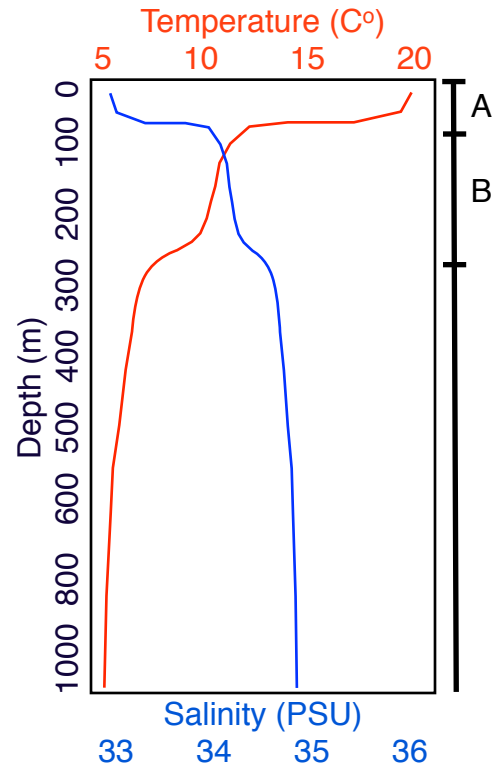

Fig. 1 Actual vertical profiles of salinity and temperature that the students hope to visualize with their samplers.
It is impossible to anticipate all the designs students may propose, but the sources of bias with water samplers are somewhat limited, being primarily associated with poorly isolating the samples while they make the journey to the deck of the ship. With a good sampler design that effectively isolates the samples, an oceanographer would generate a profile like that shown in Figure 1. Temperature will be warmer near the surface, and constant down to some depth (A) -- this is the region that is currently being well mixed, primarily by winds. Below that, the temperature declines quickly to another region of relatively constant temperature (B) -- this region is the signature of the previous years' most energetic mixing events, driven by winter storms, and extends much deeper than the summer near-surface thermoclines.